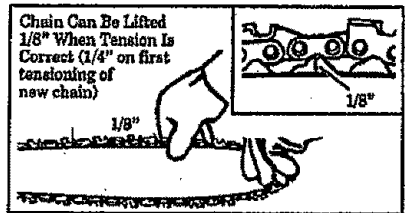

Figure 11
2. Check the tension by lifting the chain from the Guide Bar at the center of the bar. Figure 11.